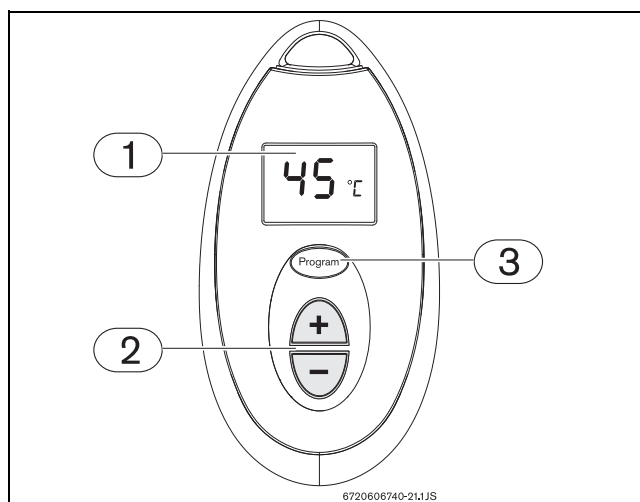

Fig. 15 Memorizing water temperature
- Press the buttons  or  on the remote control (Fig. 15, pos. 2), until the required temperature appears on the remote control display (Fig. 15, pos. 1).
- You will now be able to memorize this temperature by pressing the "Program" button on the remote control (Fig. 15, pos. 3) for 3 seconds.